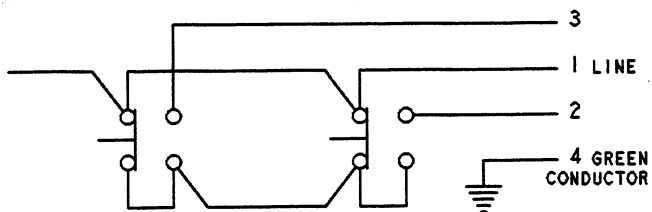

Figure 3
- A method for electrically interlocking switches is shown in Figure 3. Only two stations illustrated .